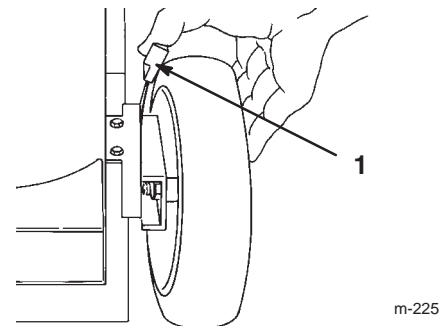

Figure 19
3. Set all 4 wheels in to the 2-1/2 in. (64 mm) cutting height setting (Fig. 19).
1. Pull the wheel height adjustment lever toward the wheel (Fig. 19) and move it to the desired setting.